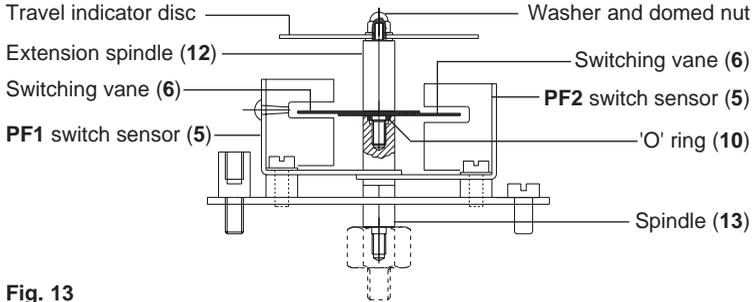

**Fig. 12**
**4.3.11** The earth cable should now be reconnected to the earth adaptor (11) and secured using the original M4 x 8 screw (refer to Figure 12). When correctly located, the plastic retaining clips can be tightened to secure the options board in place. **Note:** With the retaining clips secured there will be some float of the PCB.
**4.3.12** Prepare the ribbon cable by ensuring it is at right angles to the options PCB. Engage the ribbon connector onto the main PCB socket permanently pushing in place to locate. This should be done with light finger pressure only (refer to Figure 12) do not apply force, (only required with 4 - 20 mA retransmit and software switch options).